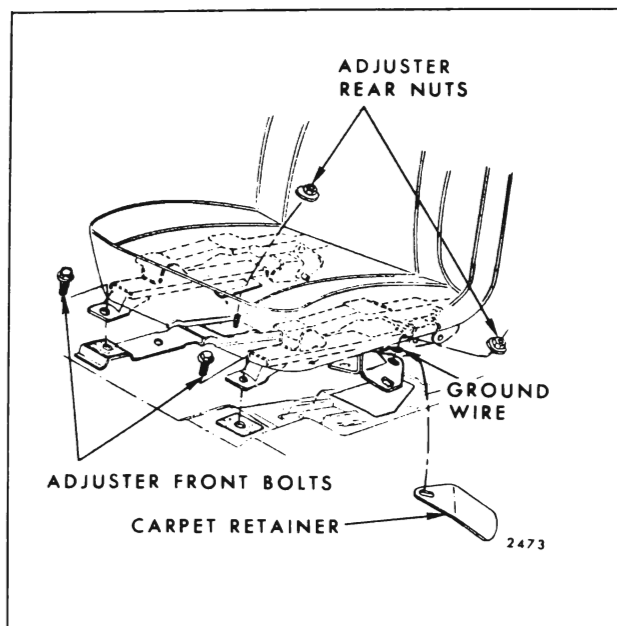

Fig. 15-26—Bucket Seat Floor Pan Attachment - "A, F, X & Z" Styles
2. Turn back floor carpeting sufficiently to expose seat adjuster-to-floor pan attaching nuts or bolts (Fig. 15-26 and 15-27).
3. Operate seat to full rearward position. Remove adjuster-to-floor pan front attaching bolts (Fig. 15-26 and 15-27). Operate seat to full forward position. Remove adjuster-to-floor pan rear attaching bolts and remove seat assembly from body.
3. Remove seat adjuster-to-floor pan rear attaching bolts (Figs. 15-26 and 15-28).
4. Operate seat to full rearward position. Remove seat adjuster-to-floor pan front attaching bolts (Fig. 15-26 and 15-28). Tilt seat rearward sufficiently to disconnect seat harness feed connector and detach harness from clip on floor pan; then remove seat assembly from body.